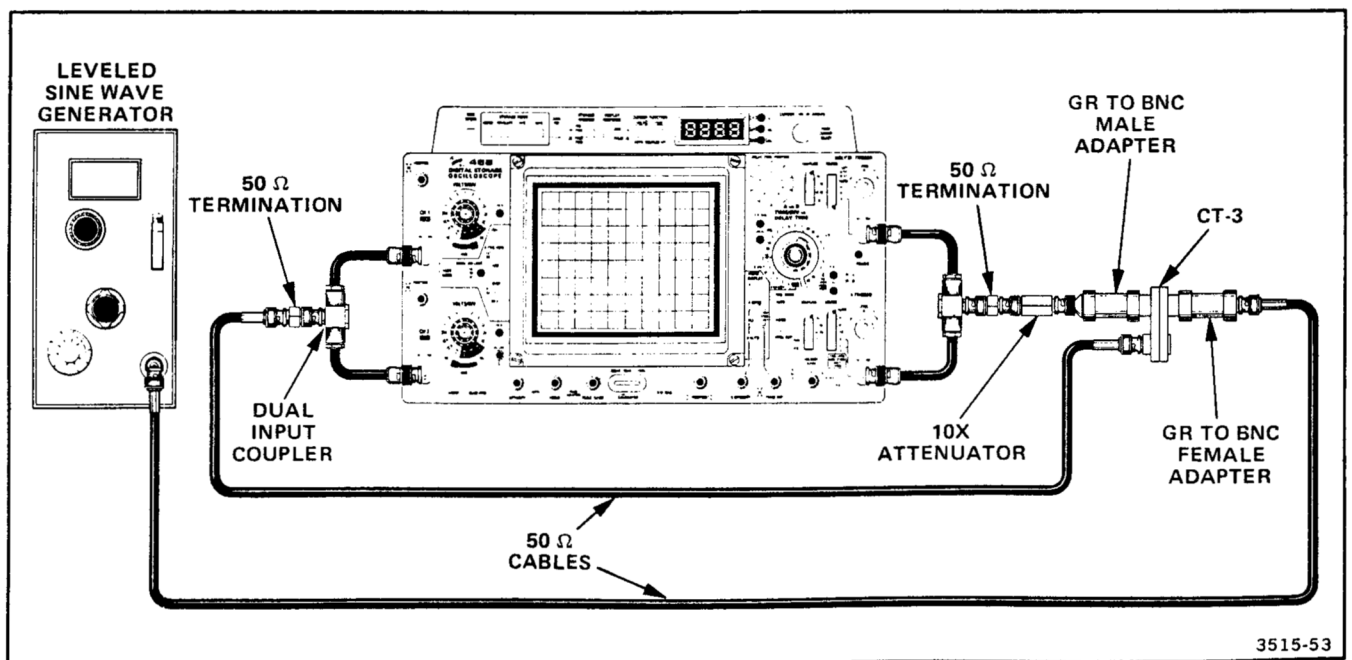

Figure 4-4. Test setup for A and B triggering checks and adjustments.
a. Connect a 10-MHz, leveled sine-wave signal to both the A and B EXT TRIGGER inputs and the CH 1 and CH 2 inputs as shown in Figure 4-4.